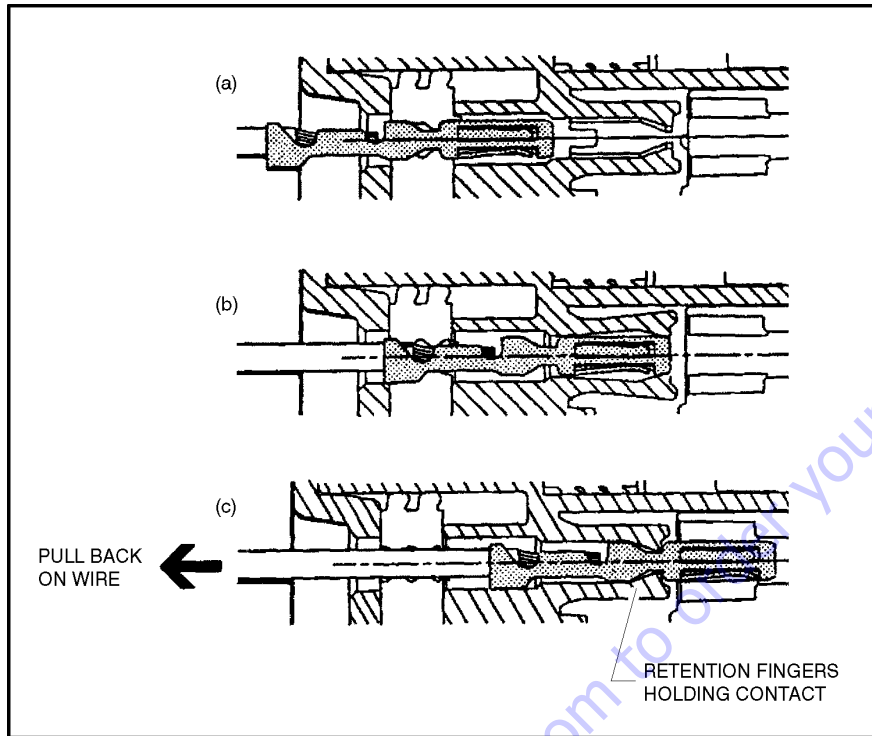

Figure 8-3. Connector Assembly Figure 2
1. To insert a contact, push it straight into the appropriate circuit cavity as far as it will go (See Figure 8-3.).
2. Pull back on the contact wire with a force of 1 or 2 lbs. to be sure the retention fingers are holding the contact (See Figure 8-3.).